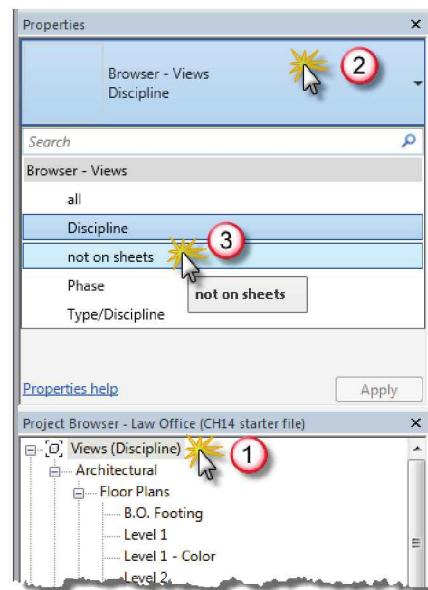

FIGURE 16-1.12 Project Browser and Properties Palette
29. Select **Views (Discipline)** at the top of the *Project Browser* (Figure 16-1.12).